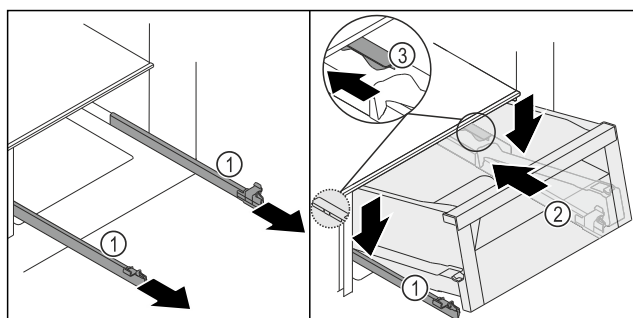
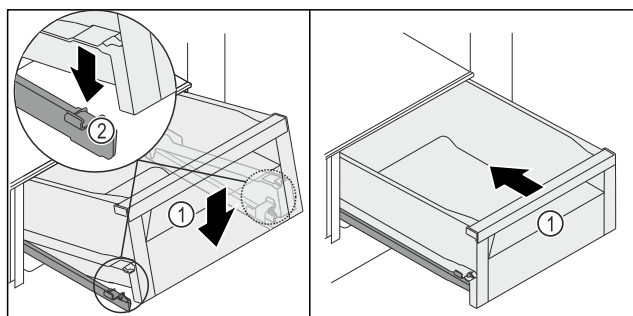

Fig. 130
Fig. 131
- ▶ Hold the rails Fig. 130 (1) firmly and place the drawer Fig. 130 (2) on the rails Fig. 130 (1) from above behind the stopper Fig. 130 (3).
- ▶ Slide the drawer Fig. 130 (2) backwards on the rails Fig. 130 (1) as far as it will go.
- ▶ Lower the drawer Fig. 130 (2) at the front so that the drawer slides into the clamp Fig. 131 (2) on the left and right.
- ▶ The drawer Fig. 131 (1) locks in audibly.
- ▶ Push in the drawer Fig. 131 (1).